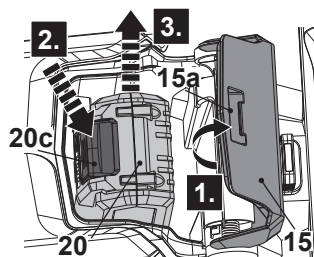

Fig. 10
1. Hold the groove (15a) and open the battery cover (15) (Fig. 10, step 1).
2. Press down the release button (20c) to unlock the latch of battery pack (20) (Fig. 10, step 2).
3. Slide out the battery pack (20) from the battery compartment (Fig. 10, step 3).
4. Close the battery cover (15).